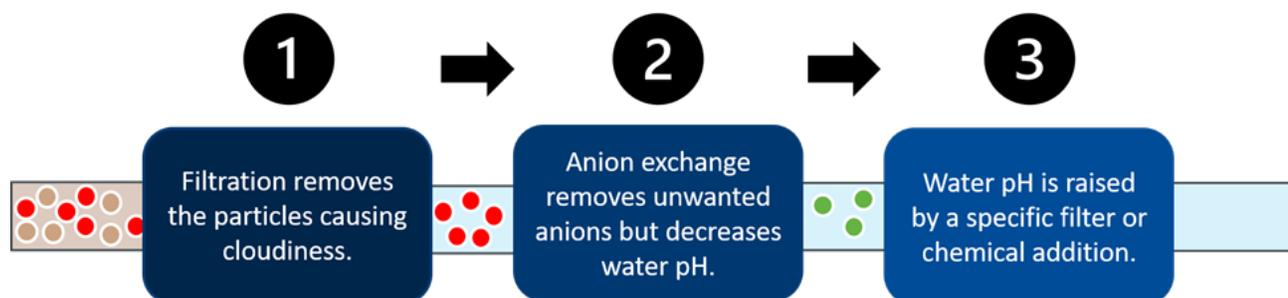

Figure 6.1. An example of a treatment train whose sequence of treatments affects removal performance.
Multiple systems may be installed to work together to form a treatment train. Treatment trains place treatment systems in a planned sequence to ensure that each treatment method performs at its best capacity. For example, anion exchange is a treatment method that is negatively affected by cloudy water and can lower the water pH. An appropriate treatment train (figure 6.1) would be (1) a pretreatment to remove the particles causing cloudiness, (2) anion exchange, and (3) post-treatment to raise the pH. More examples are provided in the sections discussing treatment options below.